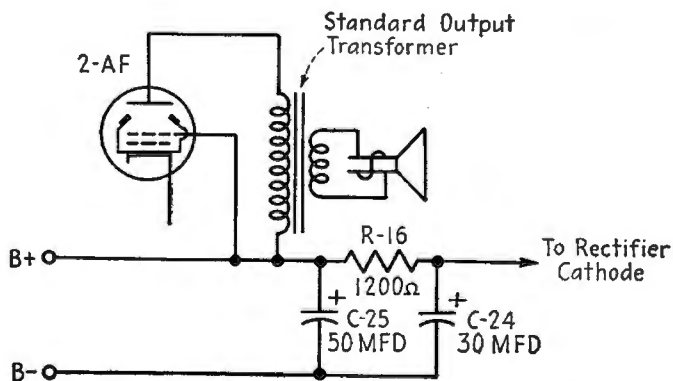

FIG. 18-30.—Replacing a hum-bucking-type output transformer. Method 2.
2. Use the circuit of Fig. 18-30. This filters the second AF plate voltage supply also and will decrease the B plus voltage. The filter resistor should be replaced by one of higher wattage.